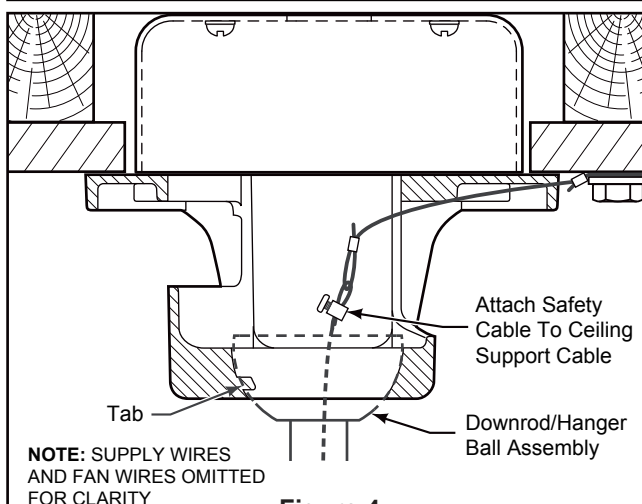

Figure 4
- ☐ 4. Slide downrod into the downrod support on top of the motor. Install the clevis pin by aligning the holes in the downrod support with holes in the downrod. Secure clevis pin with hairpin clip. Install the two set screws with nuts in the downrod support. Securely tighten the set screws with screwdriver then fully tighten the nuts using the hex wrench. (Figure 4)
- ☐ 4. Carefully lift the fan and seat the downrod/hanger ball assembly onto the hanger bracket that was just attached to the outlet box. Be sure the groove in the ball is lined up with tab on the hanger bracket. (Figure 4)
- ☐ 5. Attach the safety cable to ceiling support cable. Slide cable clamp and washer onto safety cable (from fan). Place the end of cable through the loop of ceiling support cable. Pull as much cable through loop as possible. Feed end of cable into clamp hole and firmly tighten screw. (Figure 4)
3. Connect wires using connectors as shown in Figure 4.